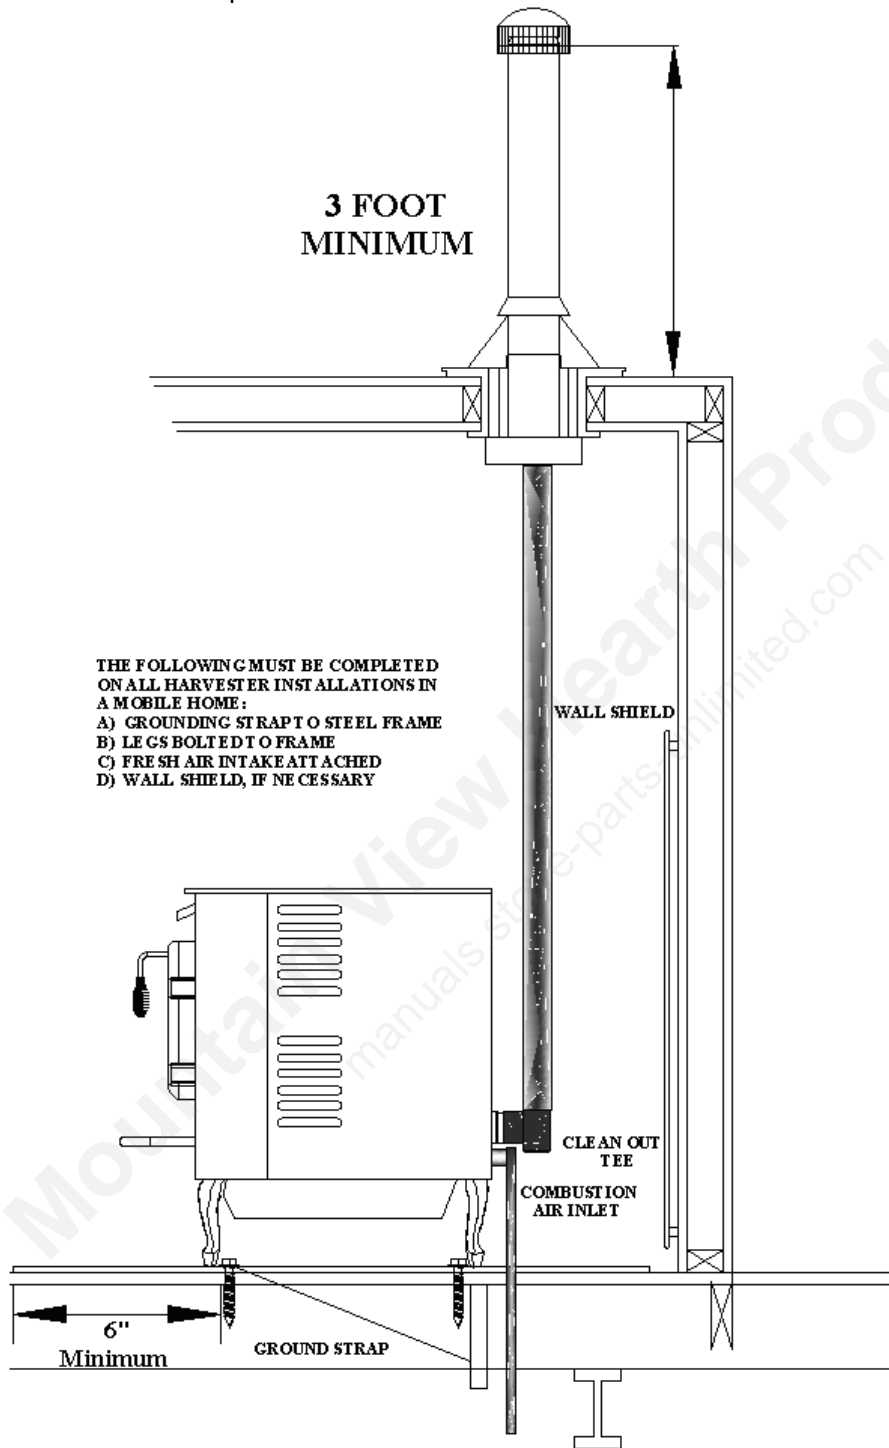

FIGURE 18: MOBILE HOME HARVESTER (FREE STANDING VENT) INSTALLATION
1. Install combustion air to the bottom of the stove as shown in FIGURE 18 in all mobile home applications. The other end of the combustion air tube is installed through the mobile home floor. Ensure that snow or other material cannot prevent fresh air from entering the duct located outside the mobile home.